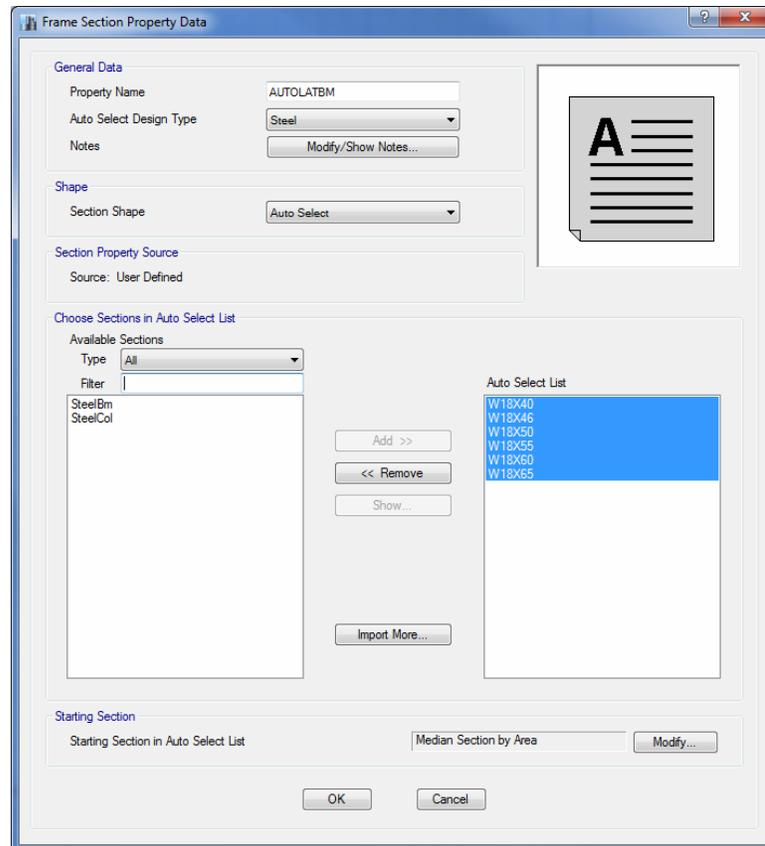

Figure 5-10 Frame Section Property Data form
3. Click on the **Autoselect Section List** button  under Special in the Frequently Used Shape Types area, or select *Auto Select* from the Section Shape drop-down list in the Shape Type area and then click the **OK** button. The Frame Section Property Data form shown in Figure 5-10 displays.